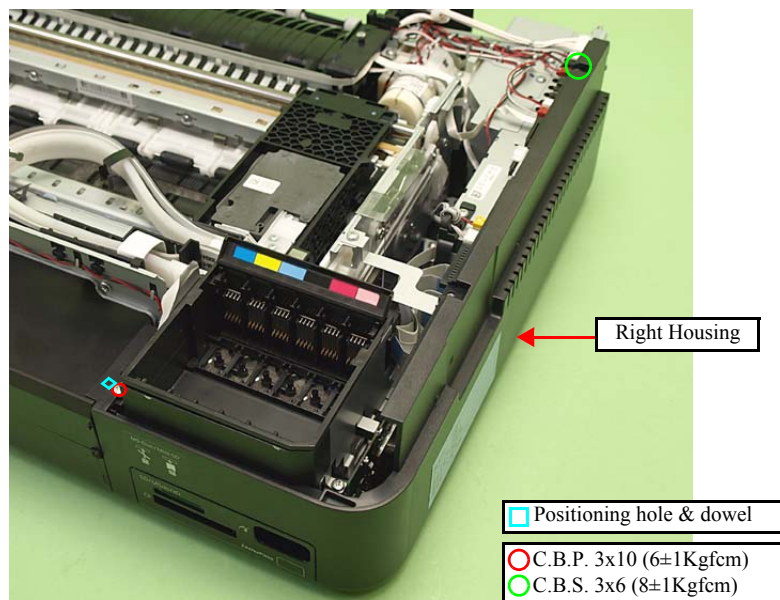

Figure 4-28. Removing the Right Housing/Card Cover (1)
2. Release the dowel (x1) of the front side (See Fig. 4-28.) and hooks (x3) on the bottom of the Right Housing, and remove the Right Housing.
- Align and insert the positioning hole of the Right Housing to the dowel of the Base Frame. (See Fig. 4-28.)